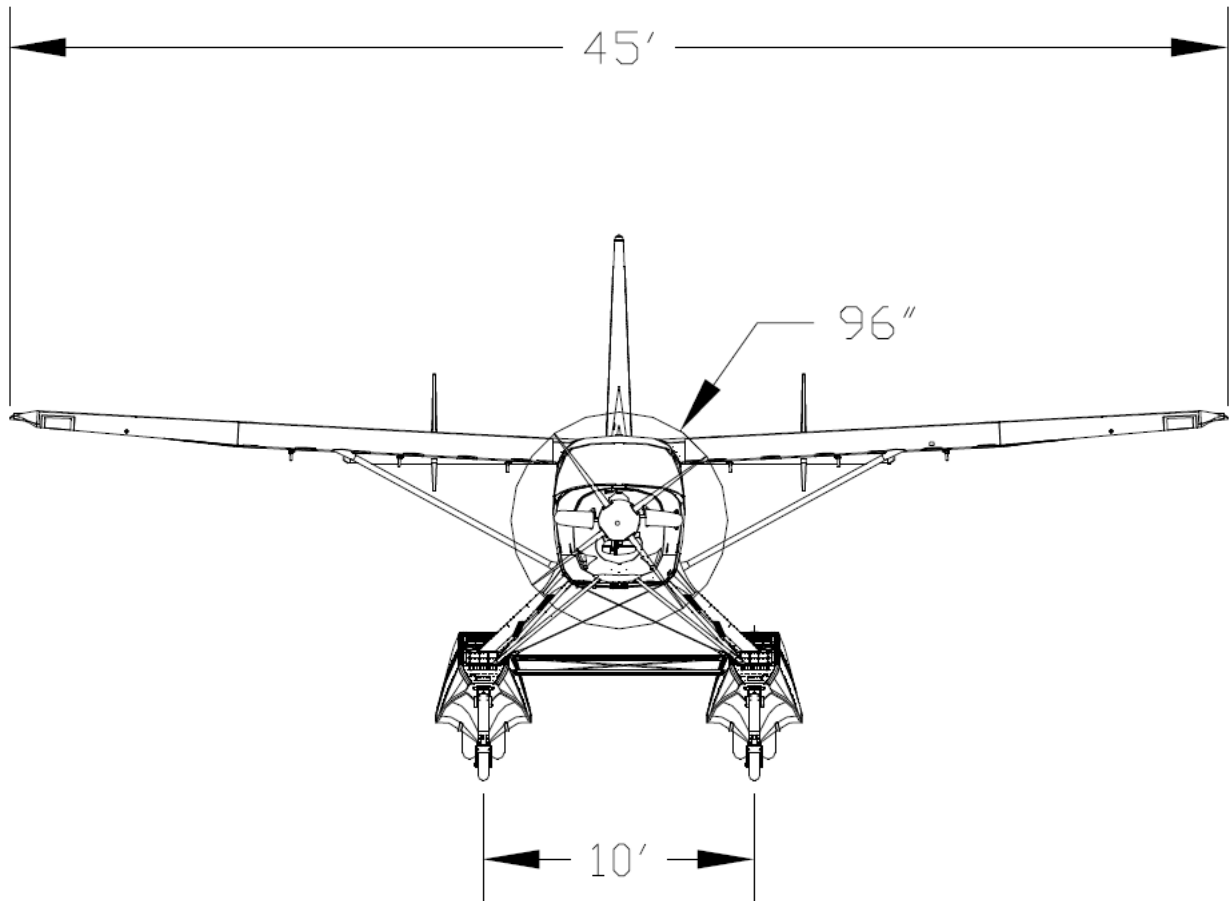

FIGURE 1-1 FRONT VIEW
Model 7000 floats contain fifteen (15) water tight compartments per hull. Access to the inside of the floats for cleaning, inspection and repairs is through the covers on the float-deck and the covers inside the wheel well. Figures 1-1 and 1-2 show three view drawings of the Kodiak 100, as installed on Wipline model 7000 amphibious floats.